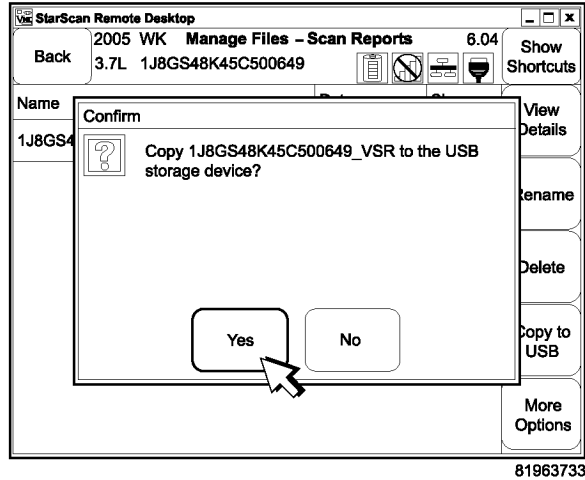

Fig. 10 MANAGE FILES - CONFIRM SCREEN
11. A “Confirm” dialogue screen appears to verify. Select “Yes” (Fig. 10).